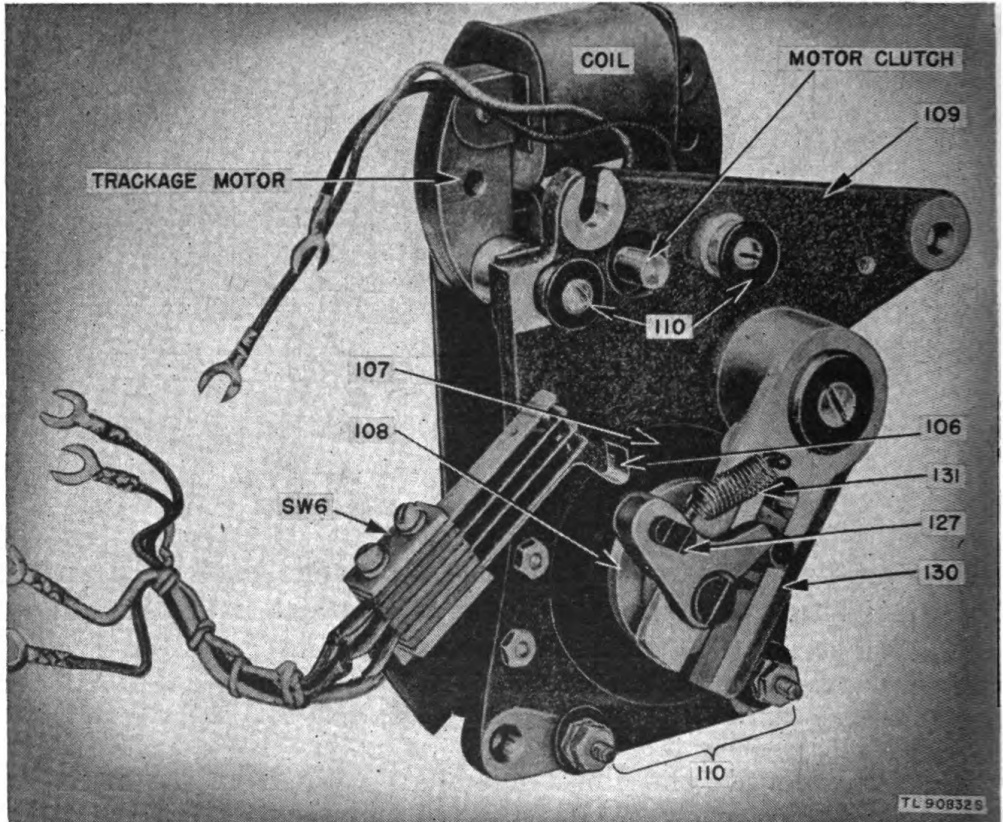

Figure 40. Carriage-(trackage) motor assembly.
a. **DISASSEMBLY** (fig. 40). (1) Disconnect the 110-volt line plug from the receptacle.
(2) Remove the back cover of the carrying case.
b. ASSEMBLY. (1) In reassembly of a new motor, care must be used in setting the trackage-motor switch SW6. The shoe (106) on the bottom of this switch should ride in the bottom of the notch in the bakelite disk (107) which is mounted inside the crank hub (108). To operate correctly, the pin which projects from the index latch (127) should be engaged in the notch on the crank hub at the same time the shoe engages the notch on the bakelite disk. (Since this relationship was correct before the plate was taken off the set, place the new trackage motor to suit the trackage switch which is fastened to the supporting plate rather than change the position of the switch itself.)
(2) The setting of the trackage switch (SW6) should be checked before the trackage motor assembly is placed back onto the three supporting posts. There should be no clearance between the bottom leaf which forms the shoe, the insulating strip, and the bottom leaf of the switch. With the shoe riding on the bottom of the notch, the gap between the contacts of both the upper and lower part of the double switch should be approximately  $\frac{1}{50}$  inch. If a feeler gauge is not available, use the thickness of the cover of a book of safety matches.
(3) If the trackage motor is turned by hand, by turning one of the intermediate gears under the motor coil, the crank hub (108) with its bakelite disk (107) will turn and force the shoe (106) of the switch upwards until it rides on the surface of the disk. At this time, both the upper and lower contacts should be closed and remain closed for the complete rotation of the disk. They should open only when the shoe again drops into the notch of the disk.
(4) When remounting the motor to the supporting plate, do not destroy the resiliency of the rubber washers (110) used to mount the motor to the supporting plate. These washers are used to reduce vibration during motor action. Also level the motor to the plate so that the crank hub (108) which operates the mechanism will be properly aligned. Two nuts are used on each screw which holds the motor to the plate. The outer of these two nuts is used to lock the inner one in proper position after the motor is set.
(5) In replacing the plate and motor assembly, hold the pawl
pin which engages the index wheel (fig. 58) out far enough to clear the disk. Do not use force in replacing this assembly as some part might be misplaced and cause an interference. Set up the three nuts which hold the plate (fig. 40 (109)) to the supporting posts. There must be no interference as these nuts are being tightened; otherwise some part of the mechanism may suffer damage.
(1) Turn an intermediate gear of the motor by hand and observe whether the index latch (pawl) contacts the index wheel. (See fig. 58.) Contact must be broken during one complete cycle of the crank hub (108, fig. 40). At the same time note that the shoe (106) on the trackage-motor switch (SW6) and the pin on the index latch (127) must engage their respective notches. If they do engage properly, loosen the three nuts holding the plate to the set and shift the entire assembly on the posts so as to secure proper contact. Retighten the nuts securely.